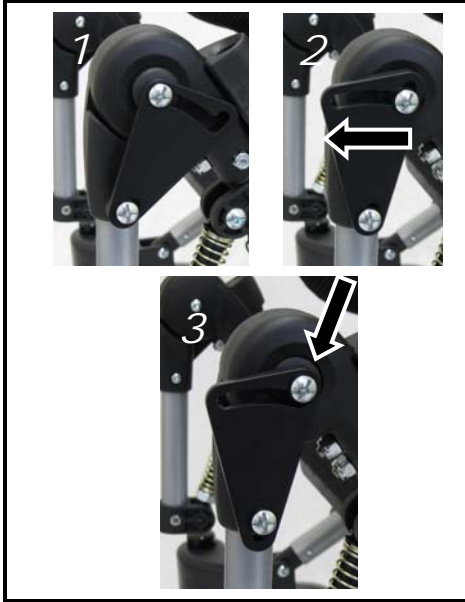

Figure 22: Leg Rest Angle Adjustment with Active Leg Rest
**WARNING: [Active Leg Rest]** Make sure the child's fingers are away from the triangular plate at the knee (Fig. 22) before moving it between positions because there is a risk that the child's fingers may be pinched in the slot of the triangular plate.